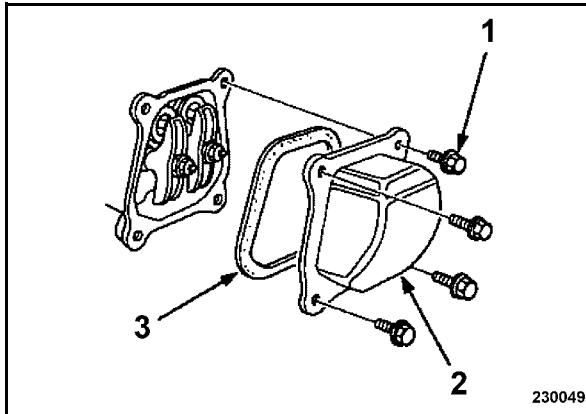

Fig. 56
- Loosen the screws (1) and take off the valve cover (2) (Fig. 56) with gasket (3).